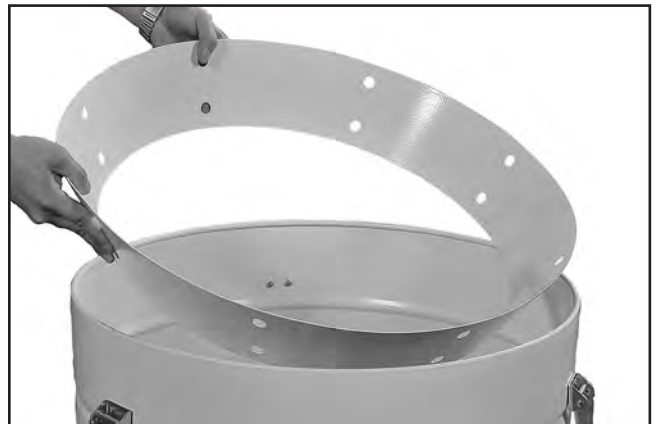

Figure 25. Inserting collection drum vacuum ring.
18. Place the collection drum vacuum ring on the bottom of the collection drum (see **Figure 25**).